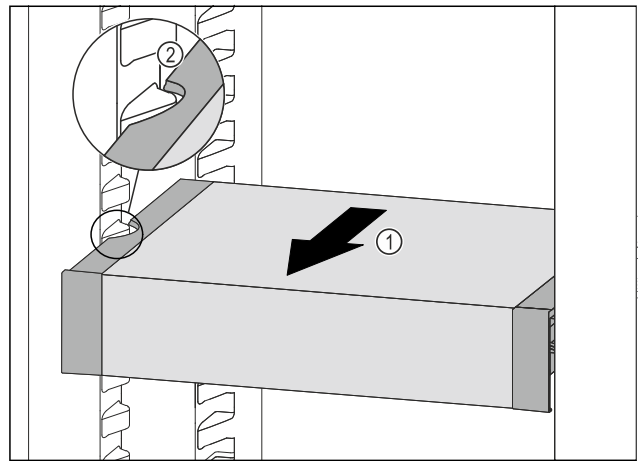

Fig. 107
- Pull VarioSafe forwards Fig. 107 (1) until the recesses in the side of the VarioSafe are at the level of the support rib in the fridge section. Fig. 107 (2)